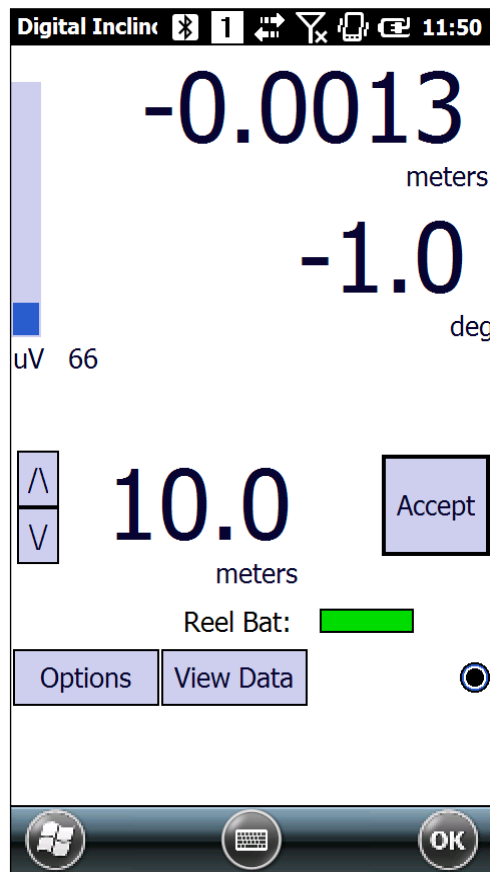

Figure 5: Readings Screen
- When complete, press the *Readings* button to display real-time readings from the probe. The readings screen should appear as follows (see Figure 5):
9. After creating a site and borehole, press the *Readings* button to perform a survey. The readings screen should appear as shown in Figure 5.